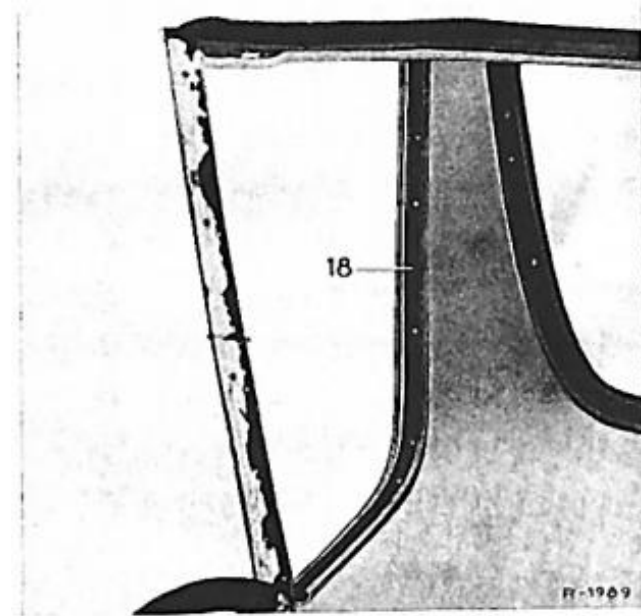

Fig. 79-10/8
11. If the rubber molding (8) should have been displaced during the operation move it into its proper position. Push the window glass toward the outside as far as it will go and install the window reveal moldings (22) and (23) (Fig. 79-10/5).